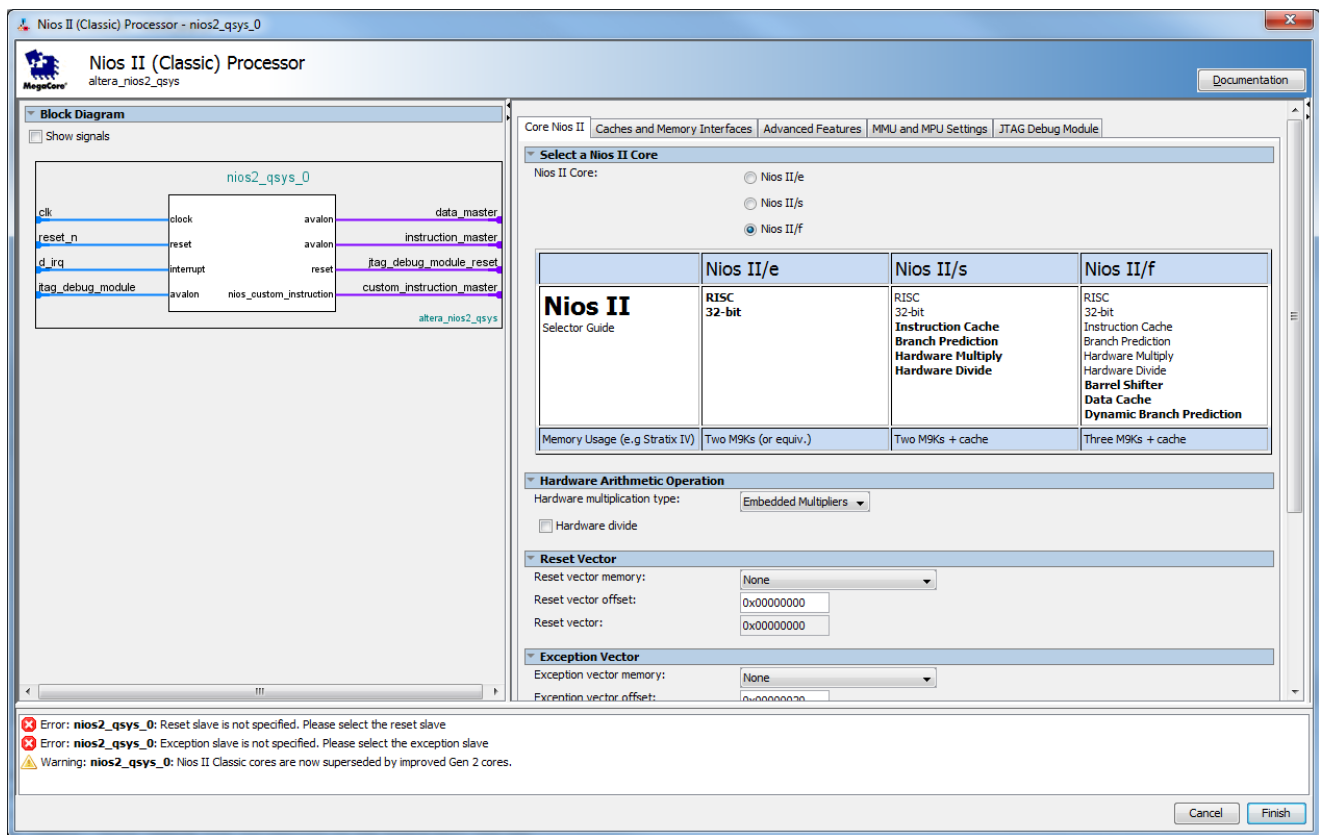

Figure 5. Create a Nios II processor.
- On the left side of the Qsys window expand **Processors and Peripherals**, select **Embedded Processors > Nios II (Classic) Processor** and click **Add...**, which leads to the window in Figure 5.